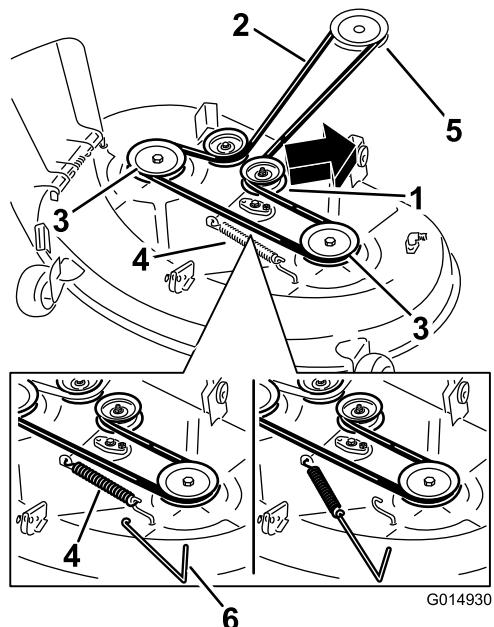
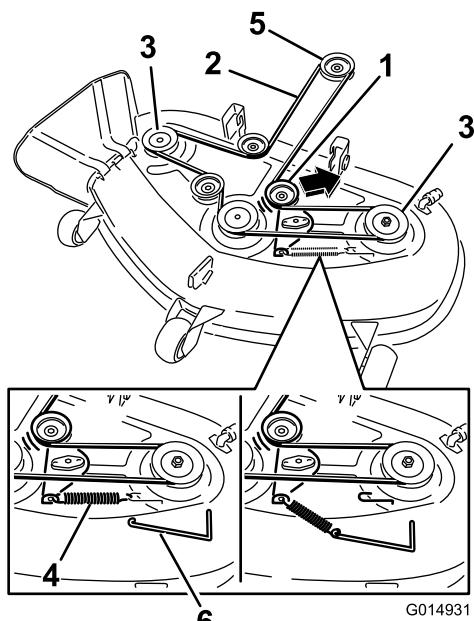

Figure 61
Figure 62
4. Using a spring removal tool, (Toro part no. 92-5771), remove the idler spring from the deck hook to remove tension on the idler pulley and roll the belt off of the pulleys (Figure 61 and Figure 62).
5. Route the new belt around the engine pulley and mower pulleys (Figure 62).
6. Using a spring removal tool, (Toro part no. 92-5771), install the idler spring over the deck hook and placing tension on the idler pulley and mower belt ((Figure 61 and Figure 62)).